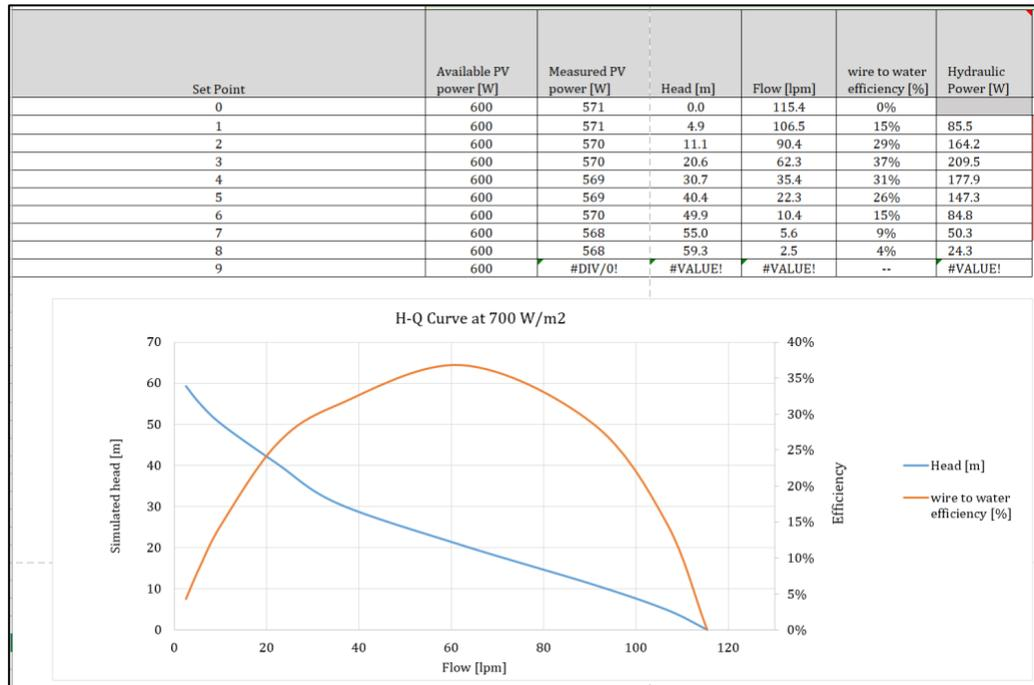

Figure 18: How to select the data displayed in the flow graph on the "Test Results" tab.
29. Navigate to the *Test Results* tab on the *HeadRange* spreadsheet and check the main test results table (shown in Figure 18) to ensure the values here make sense as well.